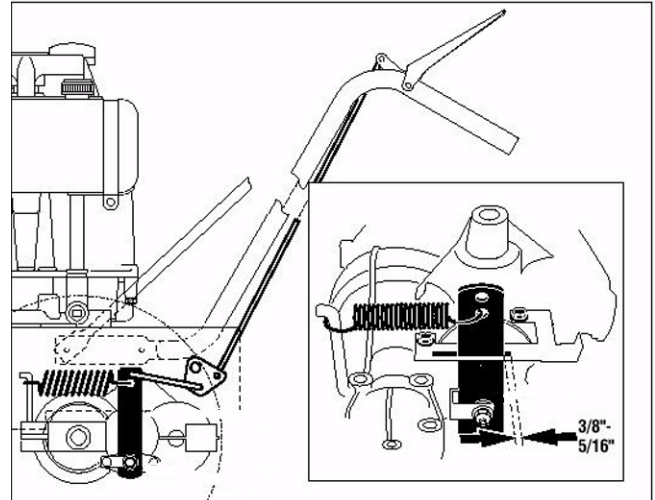

Figure 30
- 9.1. To adjust use a 1/2" wrench to make a small (1/4 turn) adjustment to the brake locknut until the correct measurement is achieved. It may be necessary to relieve spring tension when decreasing distance. Have an assistant engage the operator presence control while you adjust the nut. See Figure 30.